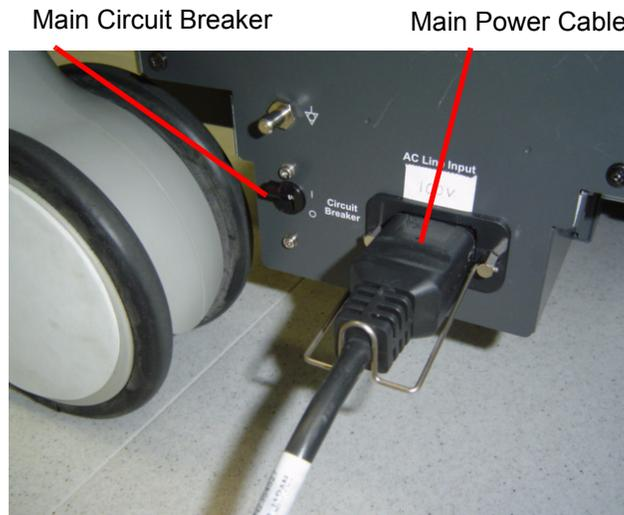

Figure 4-11 Circuit Breaker
- 2.) Switch OFF the Main Circuit Breaker at the rear of the system Refer to Figure 4-11 on page 4-2.
- 3.) Disconnect the Main Power Cable if needed. Refer to Figure 4-11 on page 4-2.